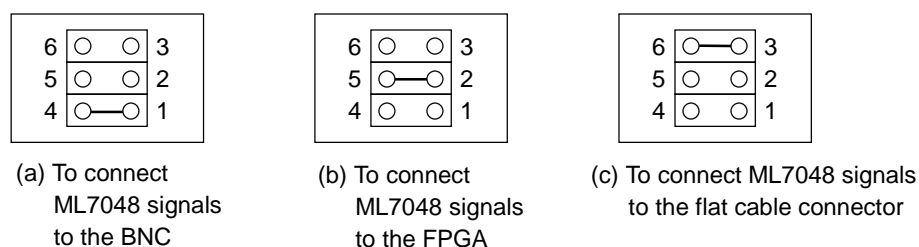

Figure 1 Jumper settings
- Jumping pins 1 and 4 (See Figure 1 (a).)
- Jumping pins 2 and 5 (See Figure 1 (b).)
- Jumping pins 3 and 6 (See Figure 1 (c).)